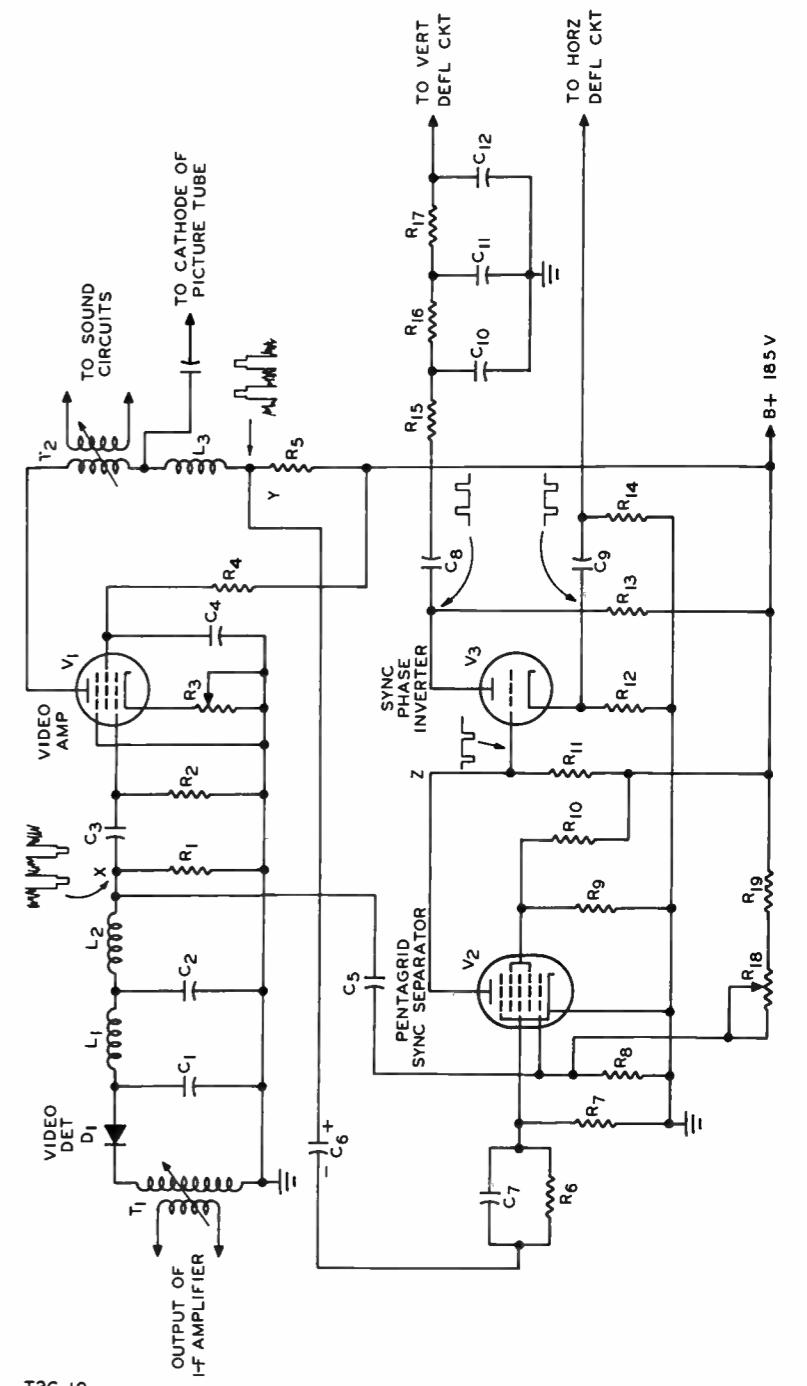

FIGURE 3
3. In the circuit of Figure 3, resistors R_6 and R_7 and capacitors C_6 and C_7 form a
4. In the circuit of Figure 3, C_9 and R_{14} form a
3. In the circuit of Figure 3, resistors R_6 and R_7 and capacitors C_6 and C_7 form a **dual time constant network**.
4. In the circuit of Figure 3, C_9 and R_{14} form a **differentiating network**.
In the circuit of Figure 3, tube V_2 goes into cutoff only (A) during noise-free periods. (B) if its cathode voltage swings negative. (C) during the sync pulse intervals. (D) when high amplitude noise pulses are present.
In the circuit of Figure 3, the plate of V_1 applies the video signal with positive going pulses through C_6 and C_7 . To cancel noise in this signal, negative going pulses are applied (A) to the grid of V_3 from the plate of V_2 . (B) to the plate of V_1 from the video detector. (C) to C_5 from the anode of D_1 . (D) to the grid of V_2 from potentiometer R_{1a} .